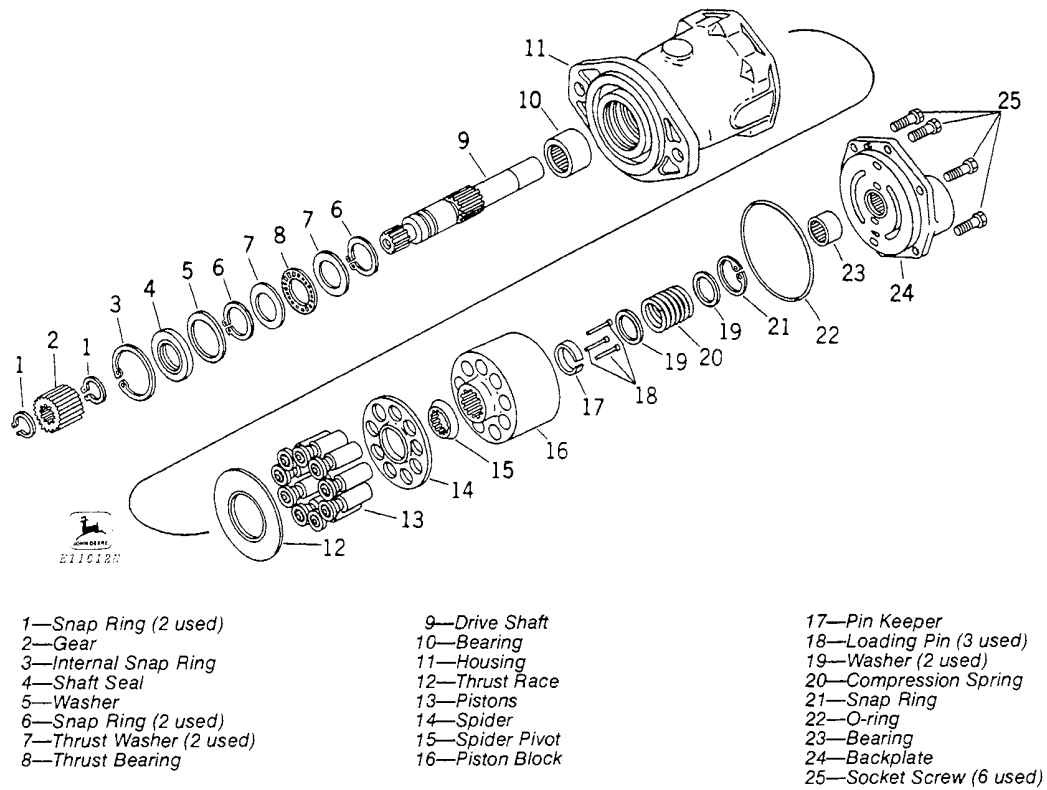

Fig. 14—Exploded View of Pump
The piston block need not be disassembled unless the pins (18), Fig. 14 or spring (20) is damaged.
Remove snap ring (3, Fig. 14) from housing.
Examine needle bearings (10 and 23), Fig. 14 in housing and backplate. If needles are free of excessive play and are still in bearing cage there is no need to replace the bearing.
Install one washer (19, Fig. 14), spring and second washer. Use the two 3/8-inch I.D. flat washers and the 3/8 x 3-1/4-inch cap screw to compress the spring. Install snap ring into piston block. Remove cap screw and flat washers.
Install shaft in housing. Install washer (5, Fig. 14) on shaft. Oil I.D. of new shaft seal and press into housing. Retain with snap ring.